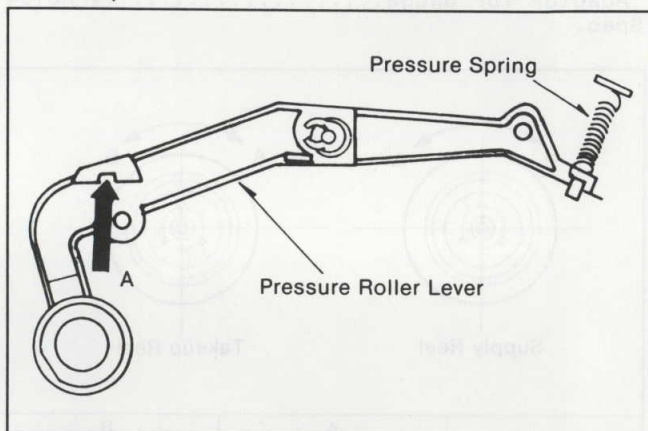

Figure M23
4. Set Fan-Type Tension Gauge to the direction indicated by the arrow as shown in Figure M23.